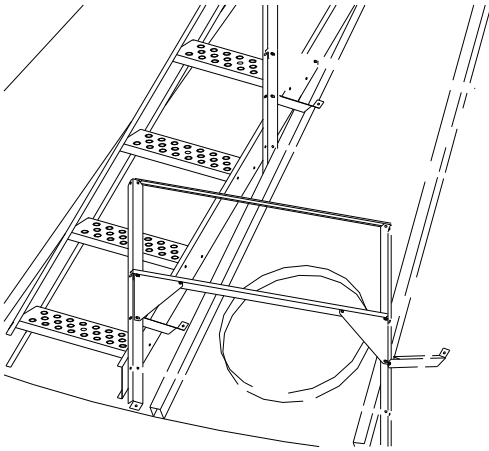

Fig 4
Attach the Upper Handrail (HR1048) between post Hardware (C) (Fig 4).
Measure from the Lower Left Post beside stairs up the roof 46". If there is room between the roof rib and the roof stairs, attach post same as the first. If not, place the post outside of the roof rib and attach to roof. Plumb post and attach Left Knee Brace to post and roof. (Fig 4)